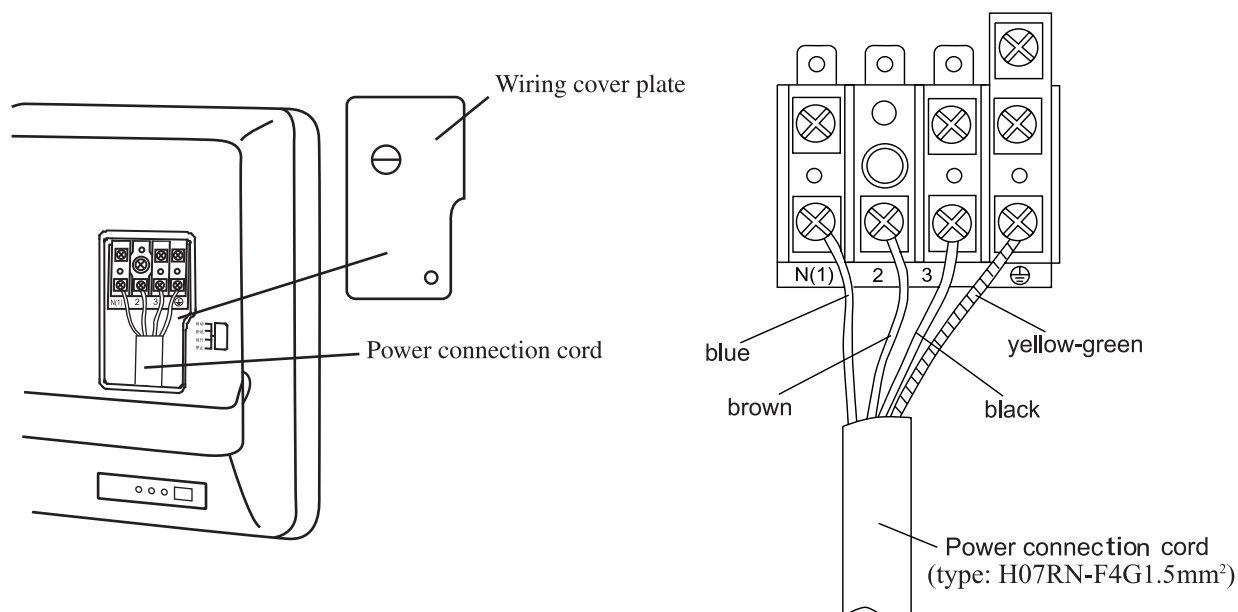

Fig.4
2. Remove the wiring cover. (Fig.4)
4. Connect the blue wire of the power connection cord to the terminal "N(1)", the brown one to "2", the black one to "3", and the yellow-green one (earth wire) to "⊥" as shown in Fig.4.